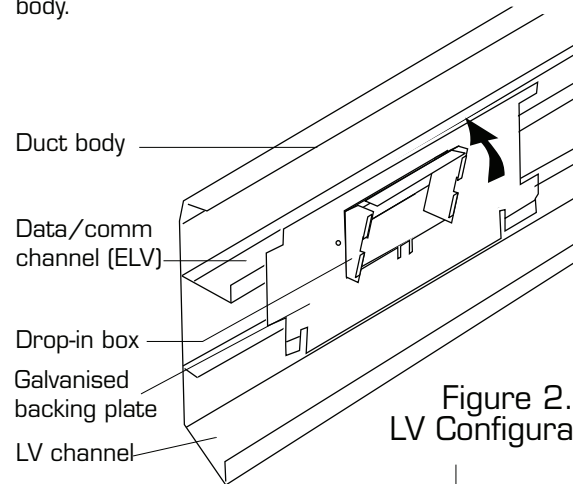

Figure 2.
- 2) For LV access to the lower channel, the opening in the box faces down. Refer Figure 2.